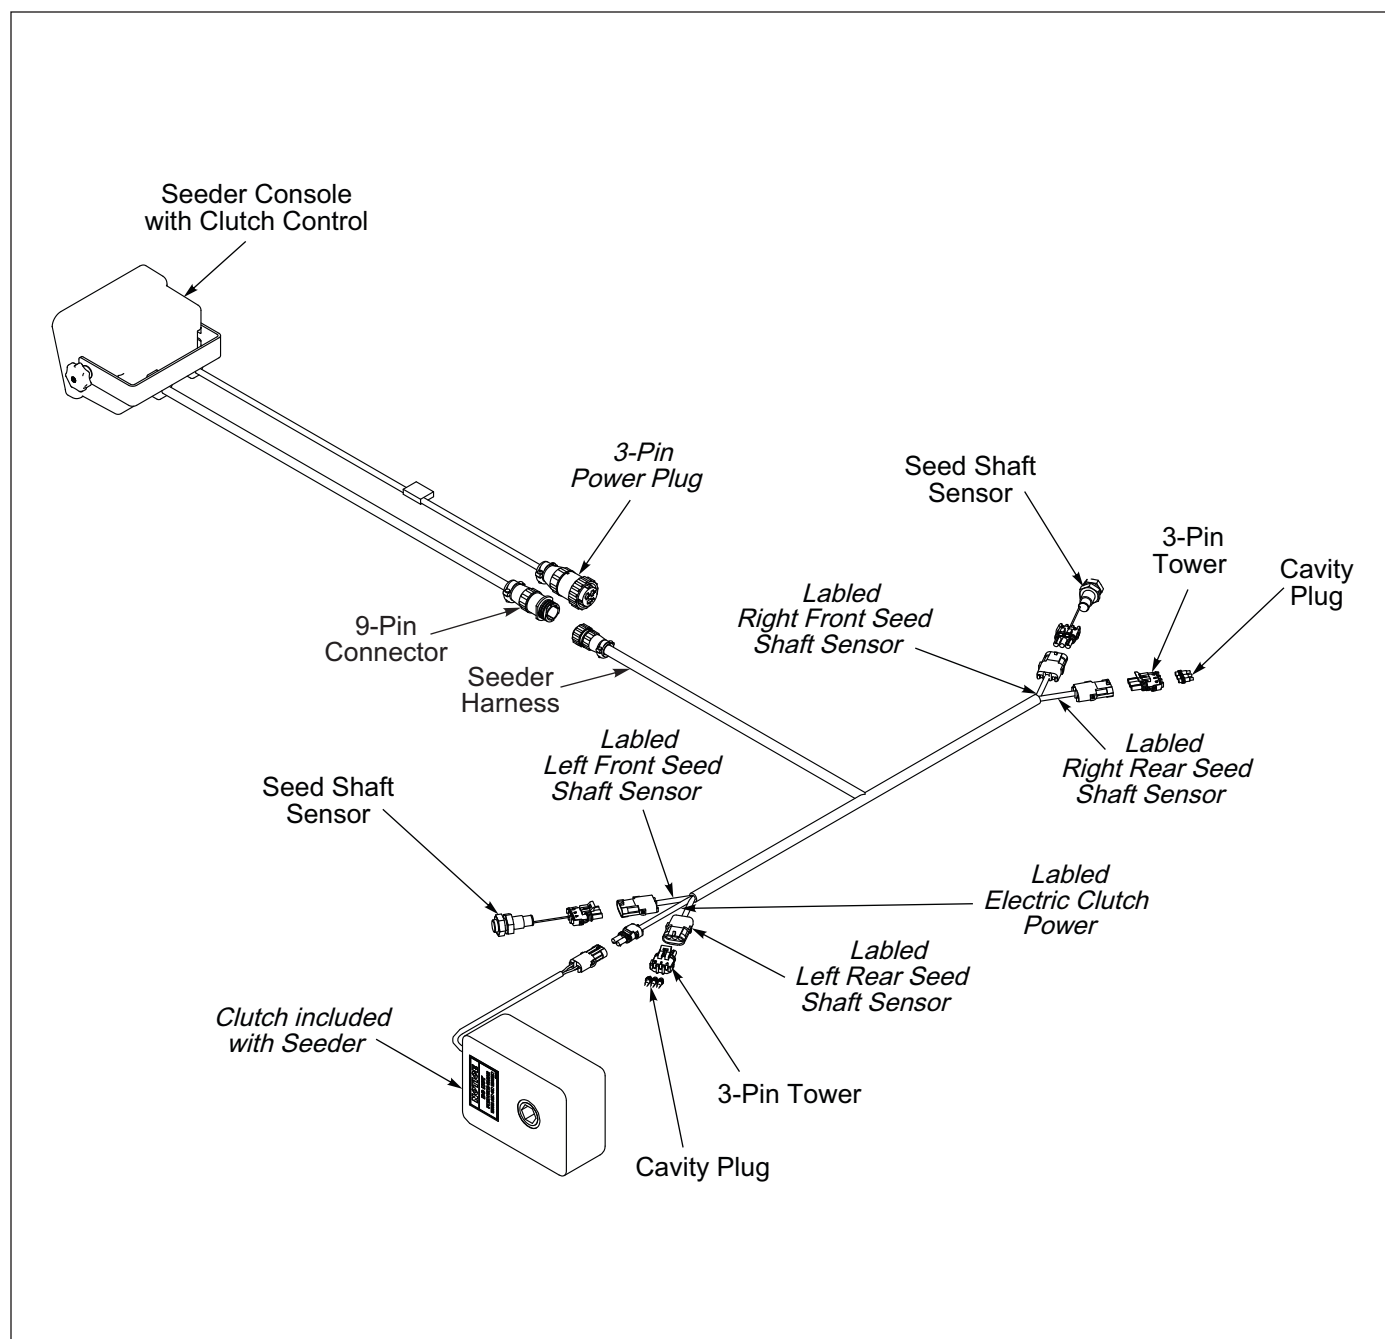

Figure 2-38: Console w/Clutch Control Electrical Schematic
7. On left side connect plug labeled "Electric Clutch Power" to the Electric Clutch Lead. **See Figure 2-38.**